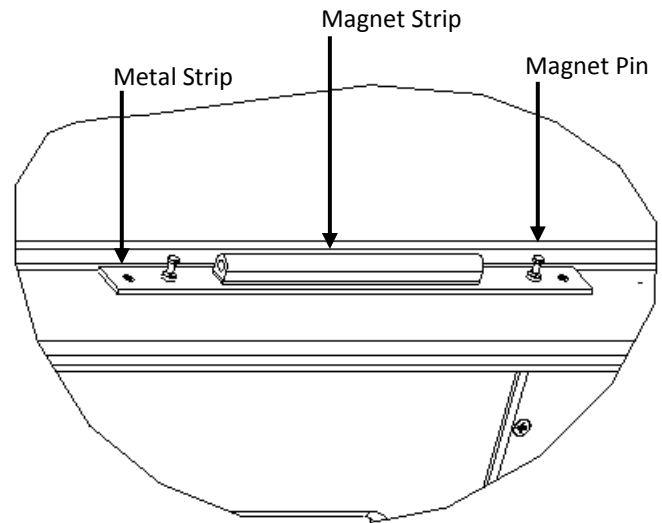

Figure 10
2. (Optional) Use the magnetic strip or magnetic pins to hold down the loose end of the Leaf to metal strip located near the edge of hot plate. See *Figure 10*.